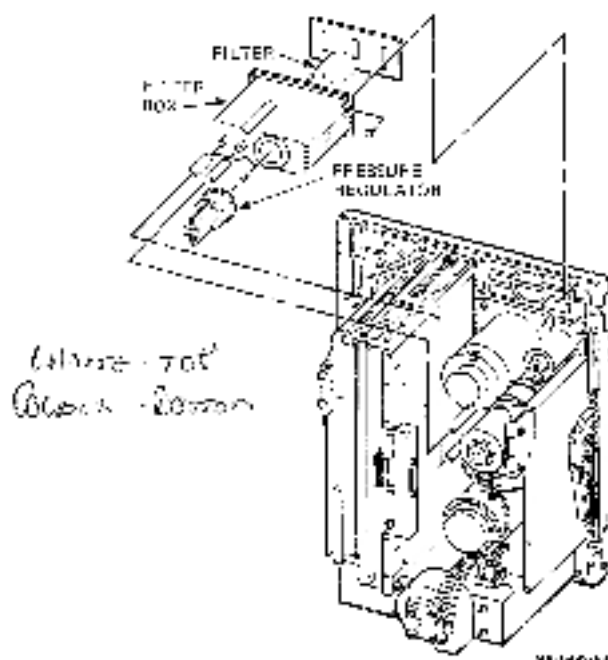

Figure 4-15. Filter Box Assembly
2. Remove the pressure regulator by unscrewing the regulator from the filter box assembly (figure 4-15).